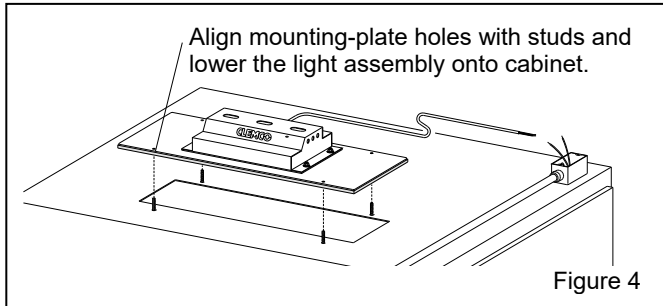

Figure 4
3.5 Turn the light assembly over, align the mounting-plate bolt holes with the mounting studs on top of the cabinet, as shown in Figure 4, and lower the assembly into place. **Do not install the wing nuts**; they will be installed later.